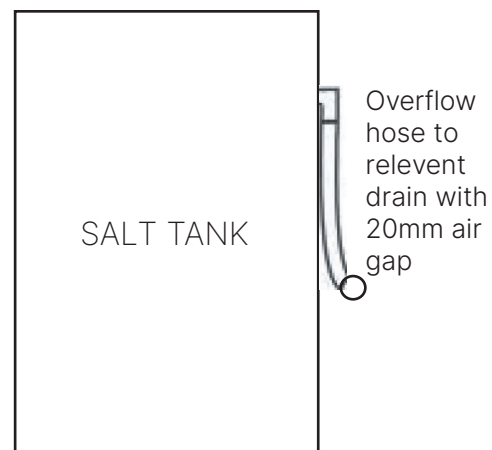

Fig 2.
- Run the drain hose to either an upstand or an outside drain. A minimum air gap of 20mm should exist at the end of the drain line (Fig 2.)